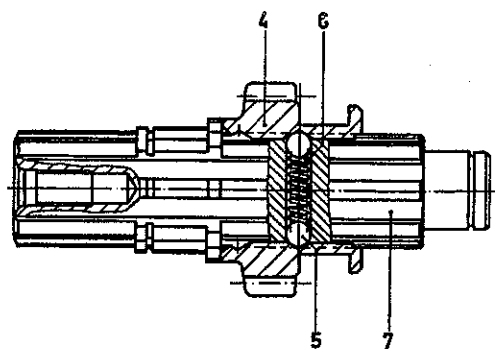

Fig. 60
2.1 Slide compression spring (6) with one ball (5) each on end into cross bore of output shaft. Glue balls down with grease. Mount slide gear (4) on shaft as shown in Fig. 60. Note that the shift groove is at seat of small ball bearing (3) and that the portions of the inner splining cut down lowest are above balls (5).